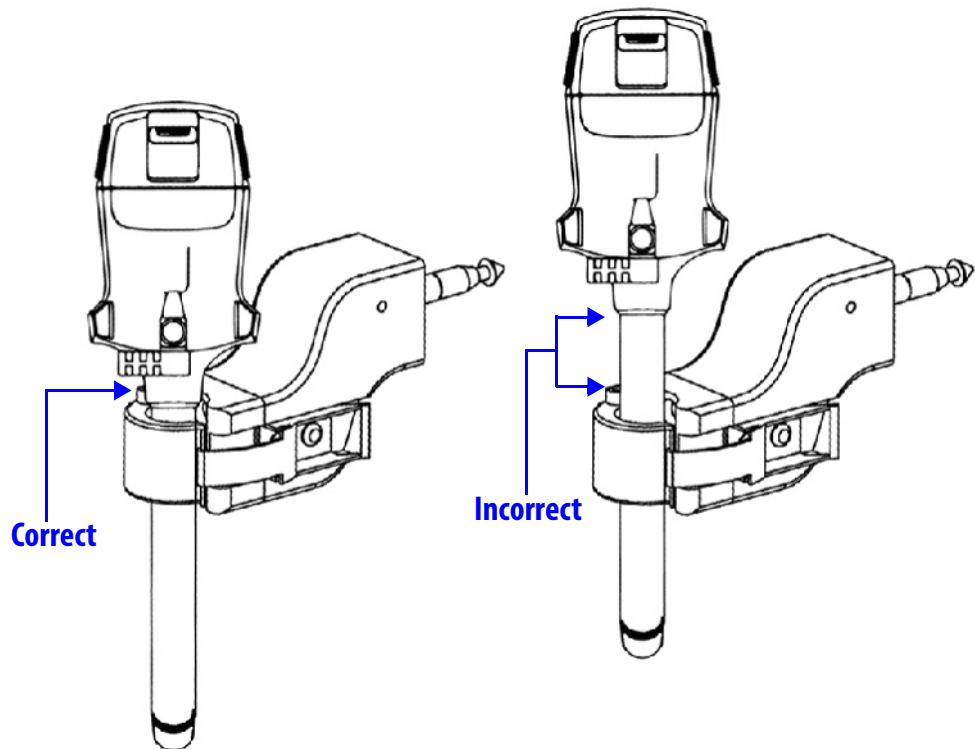

Figure 8.3 Proper attachment of the endoscope cannula
- To ensure the remote center of the cannula is properly positioned, the cannula should be attached at a point immediately below the cannula housing (see Figure 8.3 below).